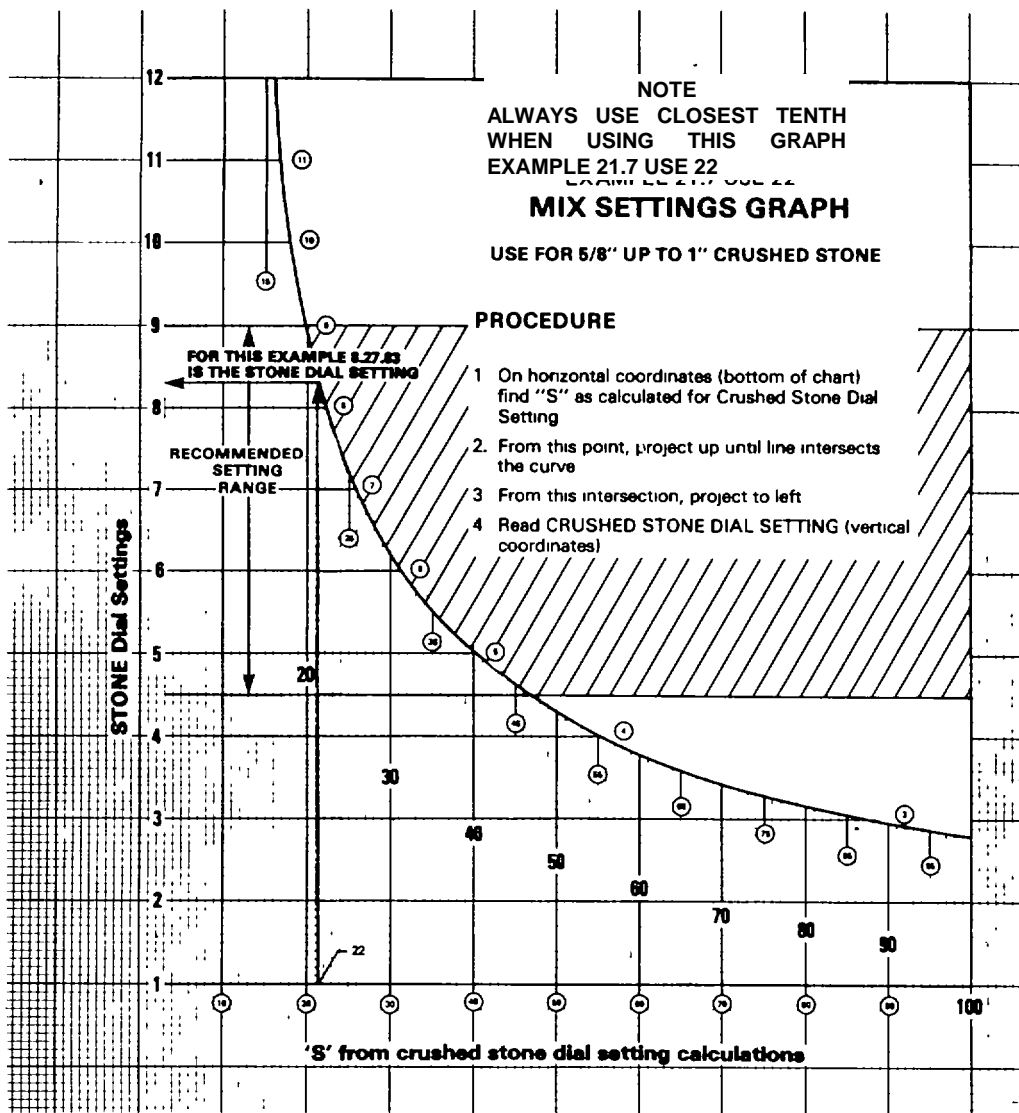

Figure 2-5. Stone Dial Setting Graph.
(4) Stone Dial Setting (4, fig. 2-2). In this calculation (X) refers to the answer of your first calculation and (S) refers to the answer of your second calculation and is the number used to determine the setting using one of three graphs depending upon the size of stone or gravel you are using. In the example being used 3/4 in. crushed stone is being used so the setting figure will be taken from figure 2-5. The three graphs are as follows:
- (c) Figure 2-5 - For 5/8 in. up to 1 in. crushed stone.